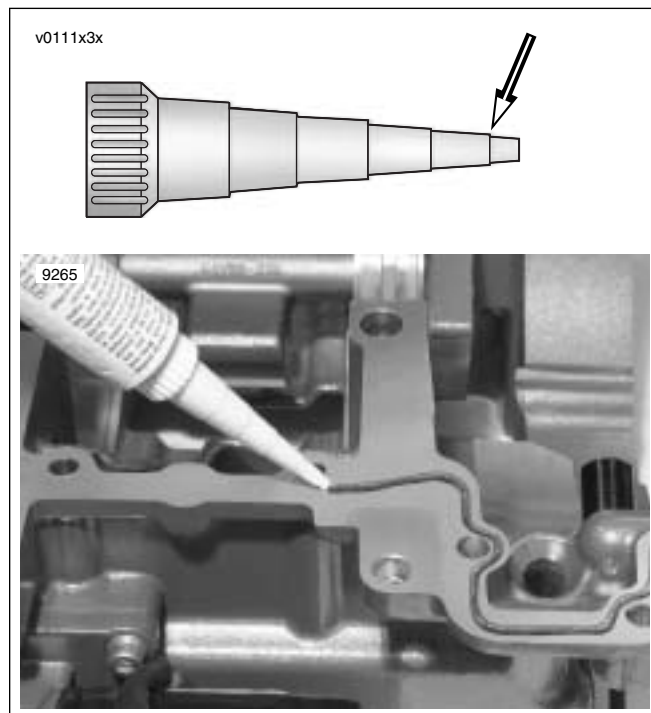

Figure 3-142. Apply Sealant
- See Figure 3-142. See Figure 3-143. Cut VRSC CRANKCASE SEALANT (Part No. 99650-02) applicator tip at first step.